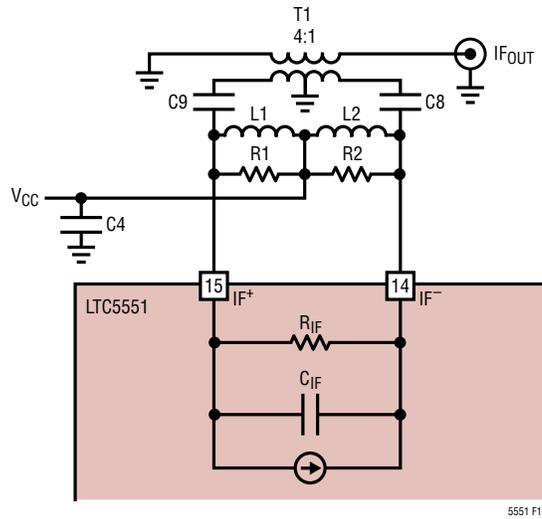

Figure 10. IF Output Circuit for Highpass Matching Element Value Calculations
The highpass IF matching circuits shown in Figure 10 can be used when higher conversion gain than that from the standard demoboard is desired. The highpass matching network will have less IF bandwidth than the bandpass matching. It also use smaller inductance values; an advantage when designing for IF center frequency well lower than 80MHz.
Referring to the small-signal output network schematic in Figure 10, the reactive matching element values (L1, L2, C8 and C9) are calculated using the following equations. The source resistance (RS) is the parallel combination of external resistors R1 + R2 and the internal IF resistance, RIF taken from Table 3. The differential load resistance (RL) is typically 200Ω, but can be less. CIF, the IF output capacitance, is taken from Table 3. Choosing RS in the 380Ω to 450Ω range will yield power conversion gains around 4dB.